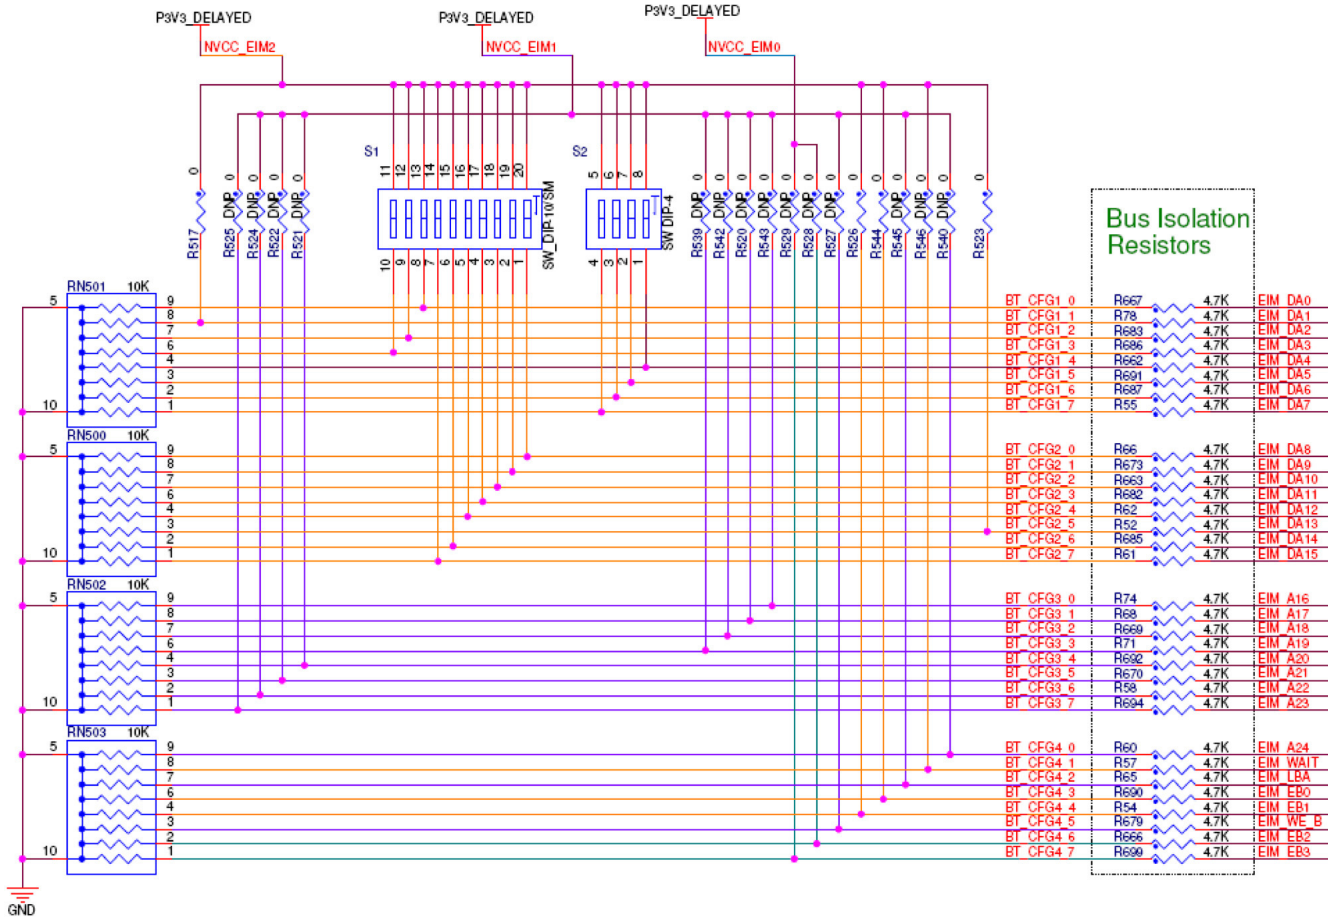

Figure 2-1. Boot configuration for development mode
6. In a 64-bit LPDDR2 memory design, include EIM_A20 and EIM_A21 pins in the boot mode switch matrix (CFG3[4] and CFG3[5]) to allow the selection of either the dual channel mode or the interleaved mode during development.	Include EIM_A20 and EIM_A21 in the boot mode switch matrix (see Figure 2-1) if a 64-bit LPDDR2 is used.
1. When EIM boot signals are used as the system’s EIM signals, other functions, or GPIO outputs after boot, use a passive resistor network to select the desired boot mode for development boards.	Because only resistors are used, EIM bus loads can cause current drain, leading to higher (false) supply current measurements. Each EIM boot signal should connect to a series resistor to isolate the bus from the resistors and/or switchers; see Figure 2-1 . Each configured EIM boot signal sees either a 14.7 kΩ pull-down or a 4.7 kΩ pullup. For each switch-enabled pulled-up signal, the supply is presented with a 10 kΩ current load.
2. Include EIM_A20 and EIM_A21 in the boot mode switch matrix (see Figure 2-1) if 64-bit LPDDR2 is being used.	In a 64-bit LPDDR2 memory design, EIM_A20 and EIM_A21 pins must be included in the boot mode switch matrix (CFG3[4] and CFG3[5]) in order to allow the selection of either dual channel mode or interleaved mode during development.